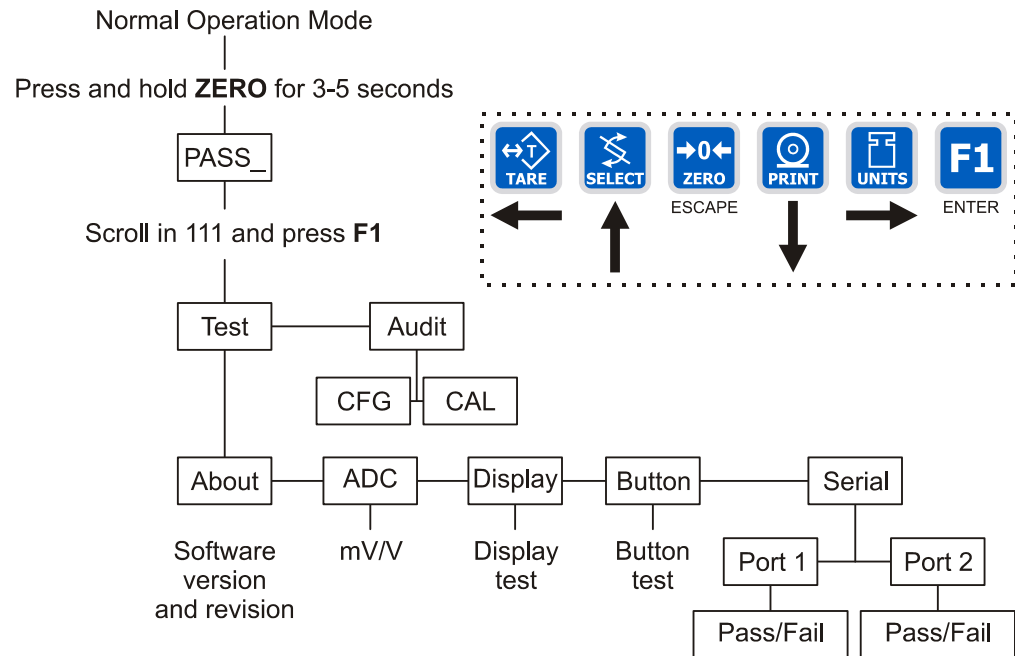

Figure 7.1 User menu flowchart
2. Use the **SELECT** and **PRINT** keys to scroll in the User menu password = 111 and the **F1** key. See note below. Figure 7.1 shows a flowchart of the User menu items. Use the keys shown in the box in Figure 7.1 to navigate through the menu and choose the items you want.